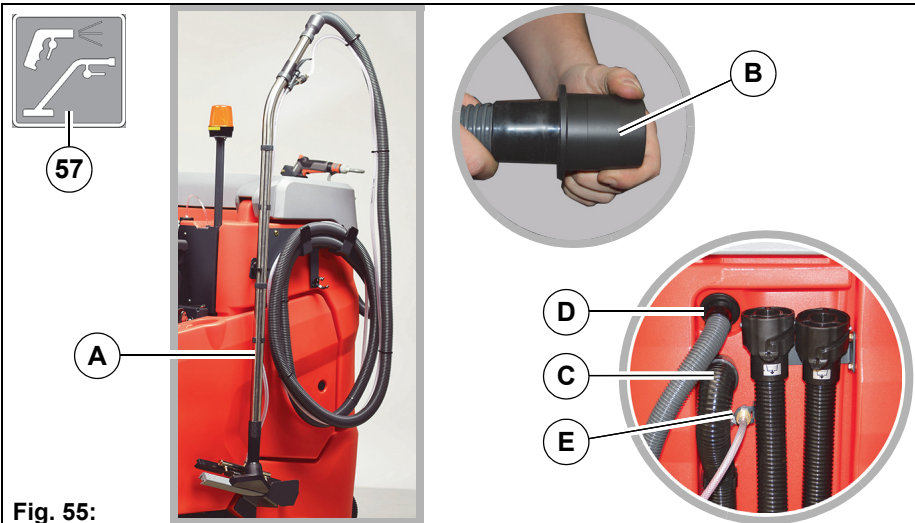

Fig. 55:
The spray suction tool **Fig. 55-A** is used for manually cleaning difficult-to-reach points.
Before starting up for the first time, the provided adapter must be securely attached to the end of the hose **Fig. 55-B**.
1. Reconnect the suction hose in the park position **Fig. 55-C**.
2. Insert the hose of the tool into the opening of the vacuum system **Fig. 55-D**.
3. Connect the hose to the water connection of the machine **Fig. 55-E**.